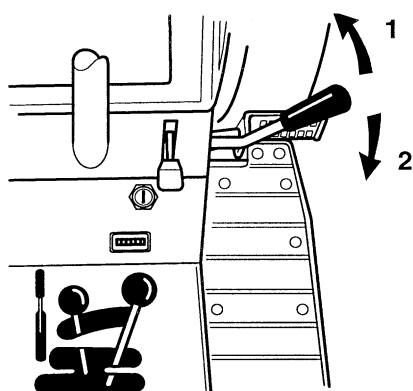

Figure 7
2. Push the power take off (PTO) lever forward to engage (Fig. 7).
2. Pull the power take off (PTO) lever back to disengage (Fig. 7).